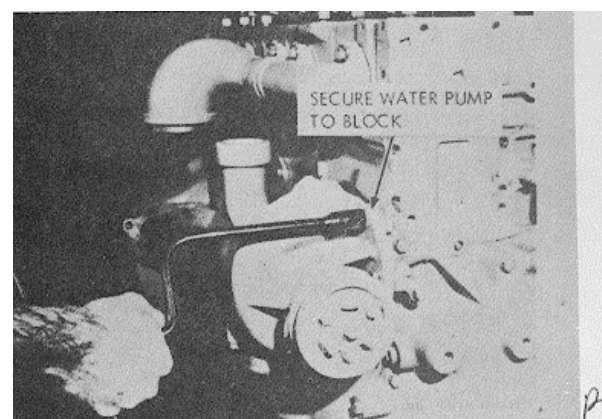

Figure 3-109. Water pump being secured to block.
(1) Lift pump into position against side of block.
(2) Install lockwashers and capscrews; tighten securely, figure 3-109.
(3) Connect water inlet and outlet hose and couplings to water pump.